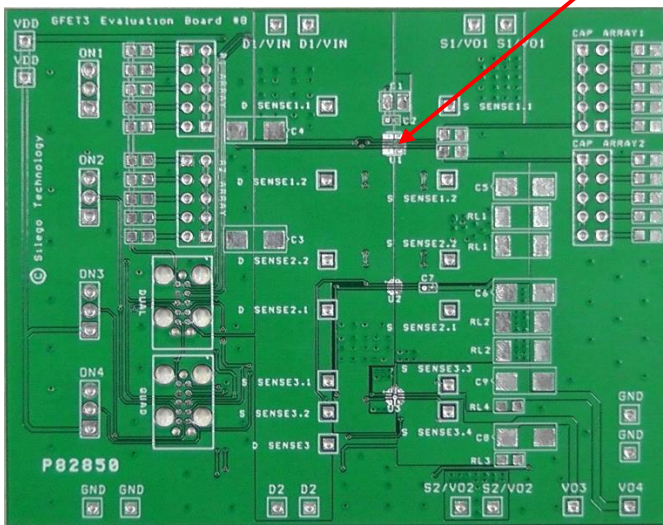

Figure 3. SLG59M1527V Evaluation Test Board
2.3. The D and S pins carry significant current. Please note how the D and S pads are placed directly on the power planes in Figure 3, which minimizes the RDS(ON) associated with long, narrow traces. The D and S pins dissipate most of the heat generated during high-load current condition. The layout shown in Figure 3 is illustrating a proper solution for heat to transfer as efficiently as possible out of the device.